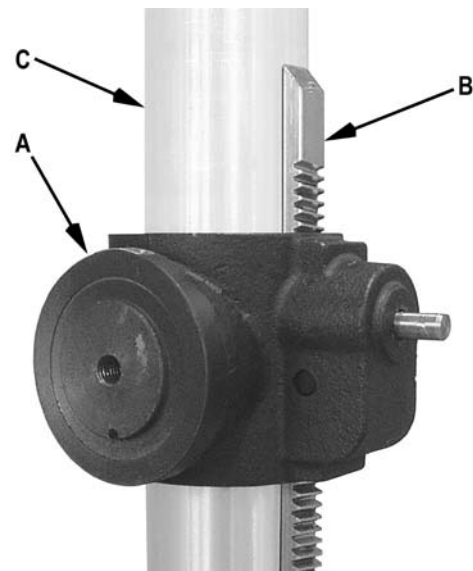

Figure 2
Referring to Figures 2 and 3:
1. Remove the wrap and take the rack ring (D) and rack (B) off the column (C).
2. Install the table bracket (A) together with the rack (B) on the column (C) as shown in Figure 2.